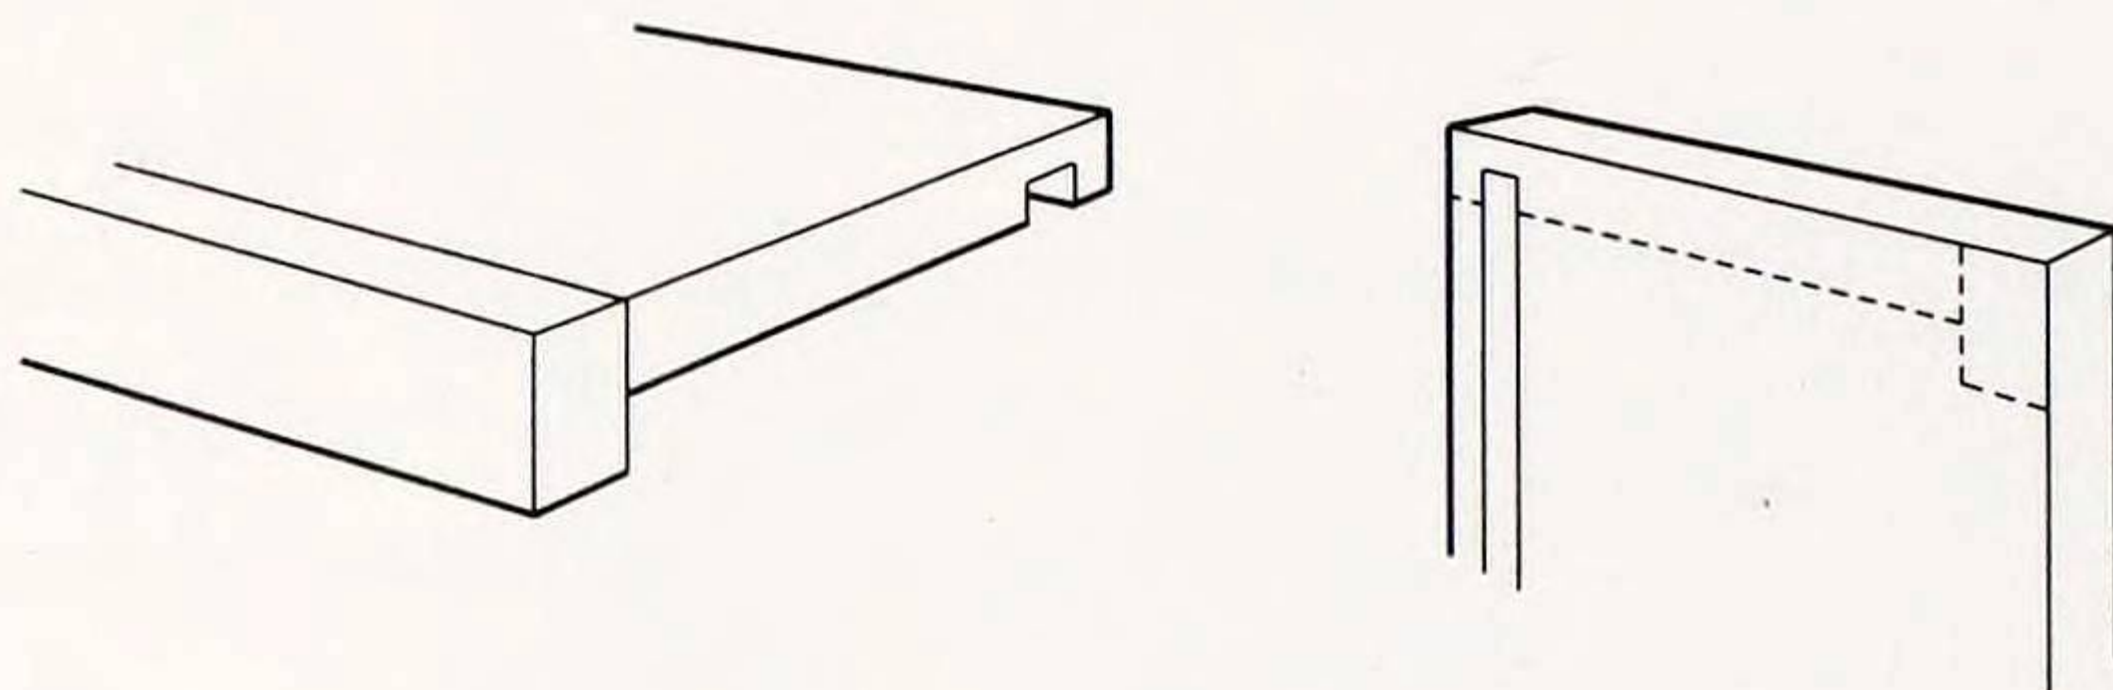

Fig. 3a Position of top and rail on the side
3. Decide upon the jointing system you wish to use (Figs 3a–d) and cut and fit the joints. All of these are options, but the choice will depend on your skill and whether you have a router or biscuit jointer. Dowels are the easiest. Test that the main cabinet will fit together properly by assembling dry without glue.